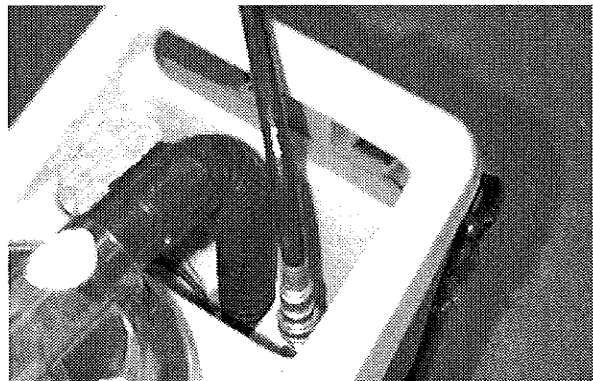

FIG. 9
1. Connect 1 m (3 ft) pump-out hose, supplied with machine, to machine's solution coupler (Figure 9).